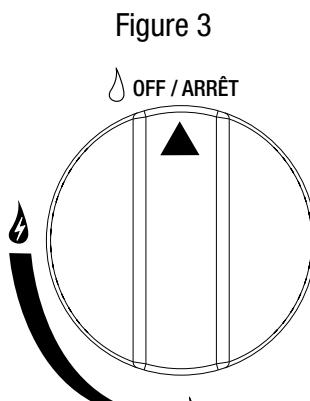

Figure 3
2. Make sure the control knobs are in the "OFF" position (Figures 3 and 4).
1. Make sure the control knobs are in the "OFF" position (Figure 3).
2. Make sure control knobs are in the "OFF" position (Figure 3).
3. Make sure the control knobs are in the "OFF" position (Figure 3).